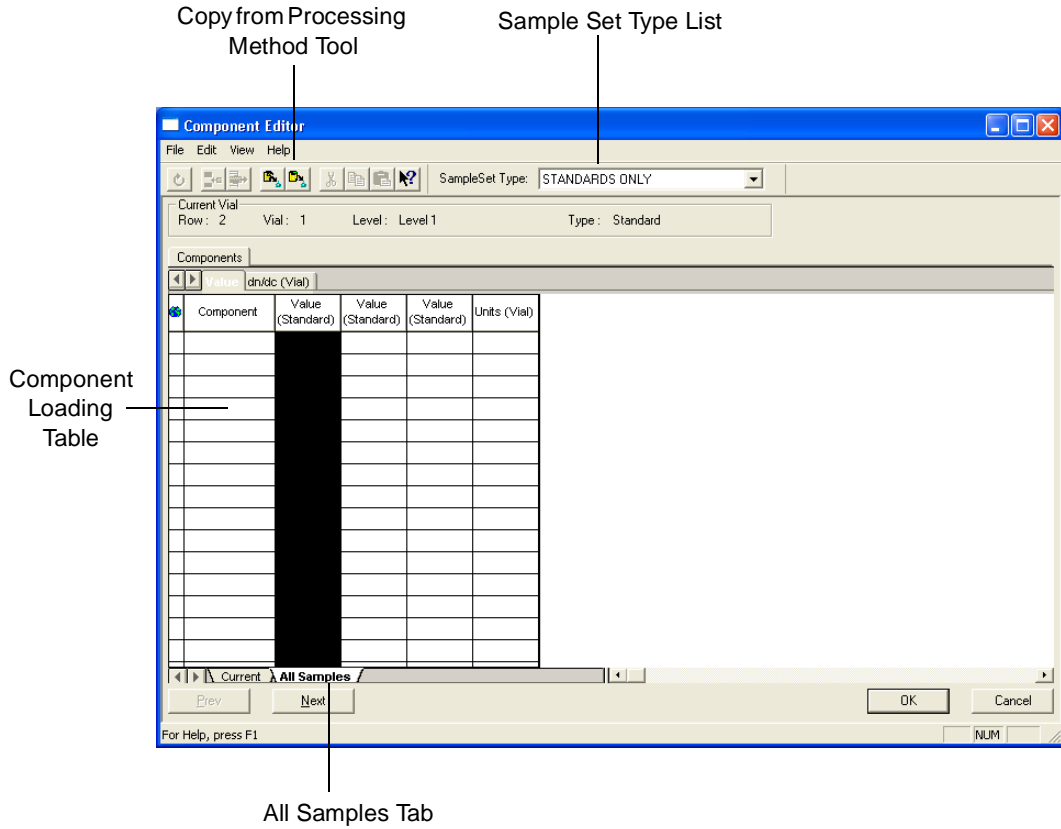

Figure 5-11 Component Editor, All Samples Tab
11. The Summary page lists all options chosen in the preceding pages. Note the check box that automatically opens the Component Editor is selected. Click **Finish** to save the sample set. The Component Editor appears (Figure 5-11). To continue with the tutorial, skip to 5.2, Entering Component Information step 2.
1. Select **File > Amounts**. The Component Editor appears (Figure 5-11).